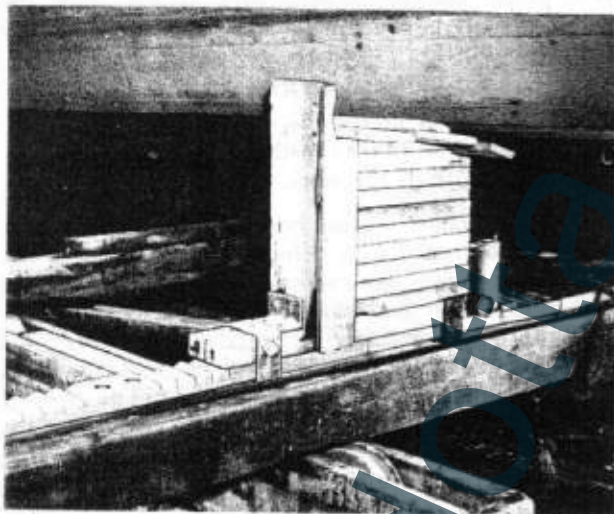
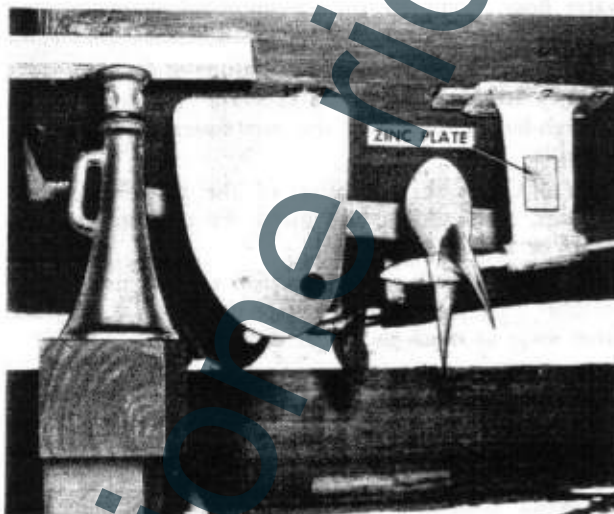

Figure 51—Blocks Supporting Bottom of Boat
Figure 52—Jack Supporting Stern
(1) Where conventional ways are used and a boat cradle is available, the cradle should be used to place the boat on the ways for hauling. If a cradle is not available, suitable keel chocks should be set up on the runway at the bulkheads to guarantee an even distribution of weight on the keel. Suitable blocks (*figure 51*) should be arranged on the ways to accommodate a portion of the weight of the boat. All such blocks should be nailed down, to keep them from fouling the wheels when the boat is placed in the water. Use jacks to support the stern. (*See figures 52 and 53.*) Take care that the weight is equally distributed at all bearing points. Do not let the propellers, struts, rudders, or any other underwater projections carry any weight while the boat is out of the water.
(2) If a crane is the only means available for removing the boat from the water, sling the cradle on the crane and then lower the cradle into the water deep enough that the boat may be placed on it without